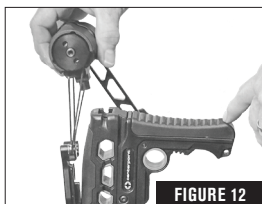

FIGURE 12
- Remove the Crank Assembly, rewind the sled and store it for future use (Fig. 12).